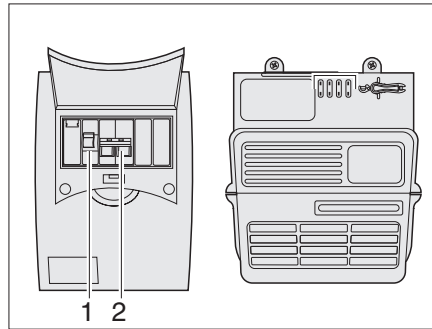

Fig. 103 230-V fuse box
The main fuse (Bild 103,2) protects the 240 V input current with a max. of 10 A. In addition, a residual-current circuit-breaker (Bild 103,1) is located in the fuse box.
- Switch the 240 V safety cut-out (see Bild 103) and the main switch battery (see Bild 96) on and off briefly in order to interrupt the current flow.